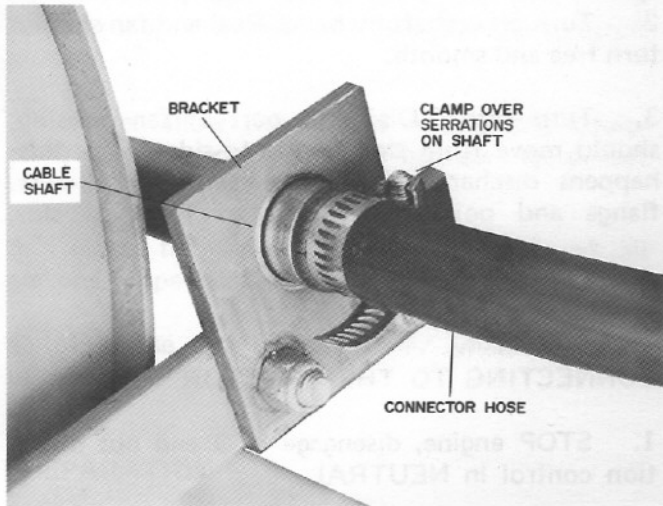

fig 2
2. Position rubber connector, item 83, over small end of control shaft and secure with hose clamp, item 82. See fig 2.
3. Assemble crank support, item 67, to snowblower with two bolts and nuts, items 91 and 39.